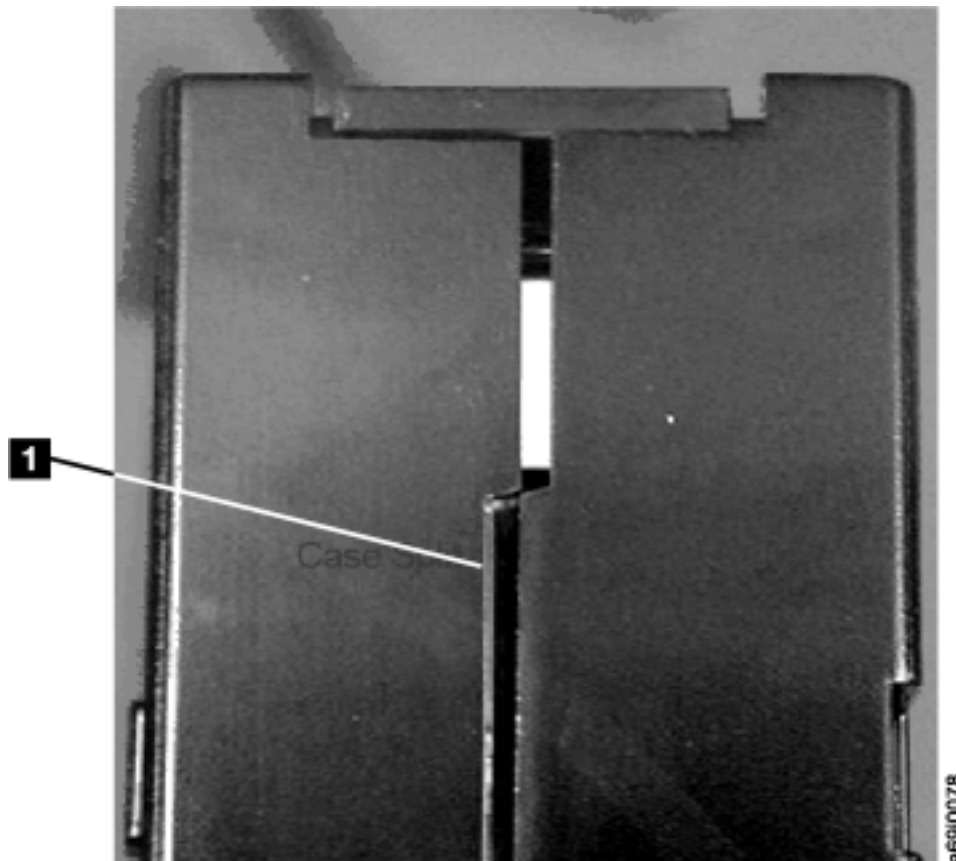

Figure 34. Gap in cartridge seam
3. Inspect the rear of the cartridge (the part that you load first into the tape load compartment) and ensure that there are no gaps in the seam of the cartridge case. (Refer to **1** in Figure 34 on page 127. If there are gaps in the seam, the leader pin may be dislodged and may need to be repositioned.)